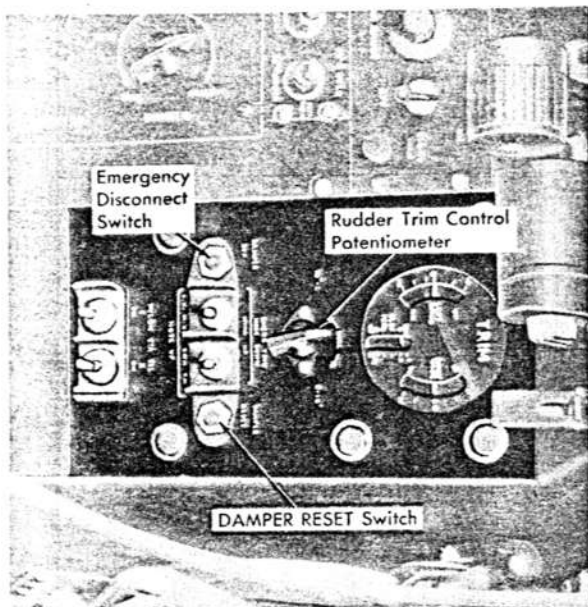

Figure 1-20. Flight Stabilization System Controls
**EMERGENCY DISCONNECT SWITCH.** The emergency disconnect push-button switch (figure 1-20) is labeled DAMPER OFF and is located on the left-hand console. It is pushed to disengage the flight stabilization system in an emergency. It is not the normal "off" switch for the system; the system is turned off when the main electrical power is turned off.
**RESET SWITCH.** The reset push-button switch (figure 1-20) is labeled DAMPER RESET and is located on the left-hand console. Pushing the reset switch engages the flight stabilization system after the emergency disconnect switch has disengaged it.
**RUDDER TRIM CONTROL POTENTIOMETER.** The rudder trim control potentiometer (figure 1-20) is located on the left-hand console. It is used for directional trim control and can be positioned anywhere within the range of "NOSE 10°-L" and "NOSE R-10°."